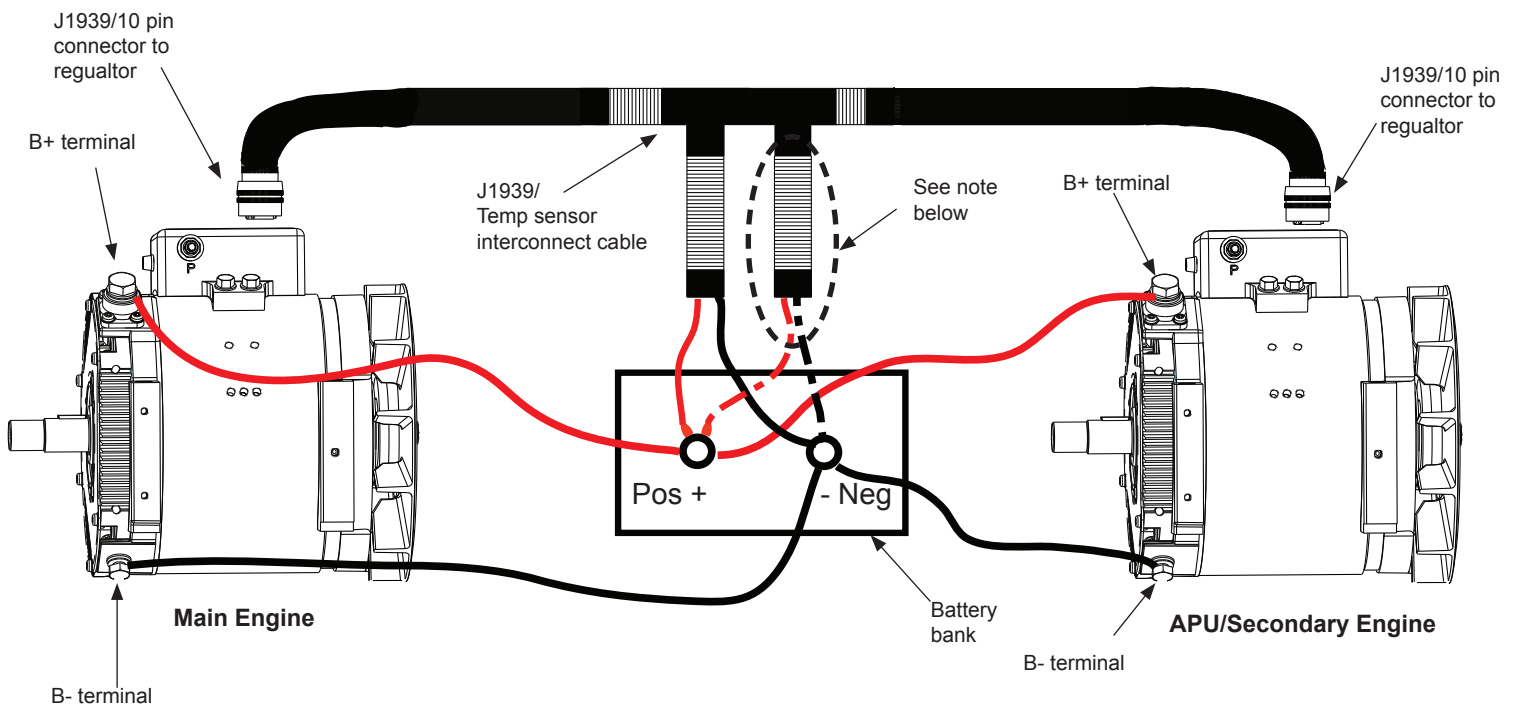

Figure 1: Dual C527 Alternator Installation
2. Connect alternator as shown in Figure 1. Ensure that B+ and B- cables are properly sized to eliminate voltage drop.